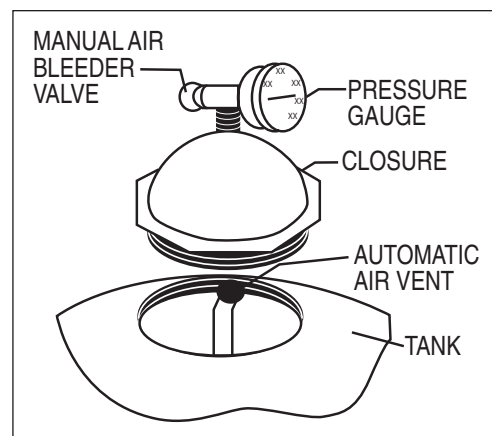

Figure 1.
- Pivot the diffuser out of the center of the tank on the TR40, 50, 60, TR60 ClearPro, 100 & 140 by rotating the diffuser assembly counter clockwise. (**NOTE:** The multi-diffuser assembly should not be moved on models TR100HD, TR100C, TR100C-3 and TR140C, TR140C-3. After installing the filter media as described below, check to make sure the tops on the diffusers are parallel to the top of the sand bed.) Fill the tank about half full of water. Pour pea gravel first (if used) and then the sand into the top of the filter at a slow rate so that the impact of the filter media does not damage the laterals. See Table 2 for the proper amounts of sand and gravel. Fill filter to the proper level to maintain freeboard, as shown in Table 2. Pivot the diffuser assembly back to its vertical position if it was moved. Be certain the automatic air vent is protruding into the top of the closure as indicated below in Figure 1. Ensure that the automatic air vent is in the center of the filter closure. Wash away all sand around the threaded opening at the top of the tank.